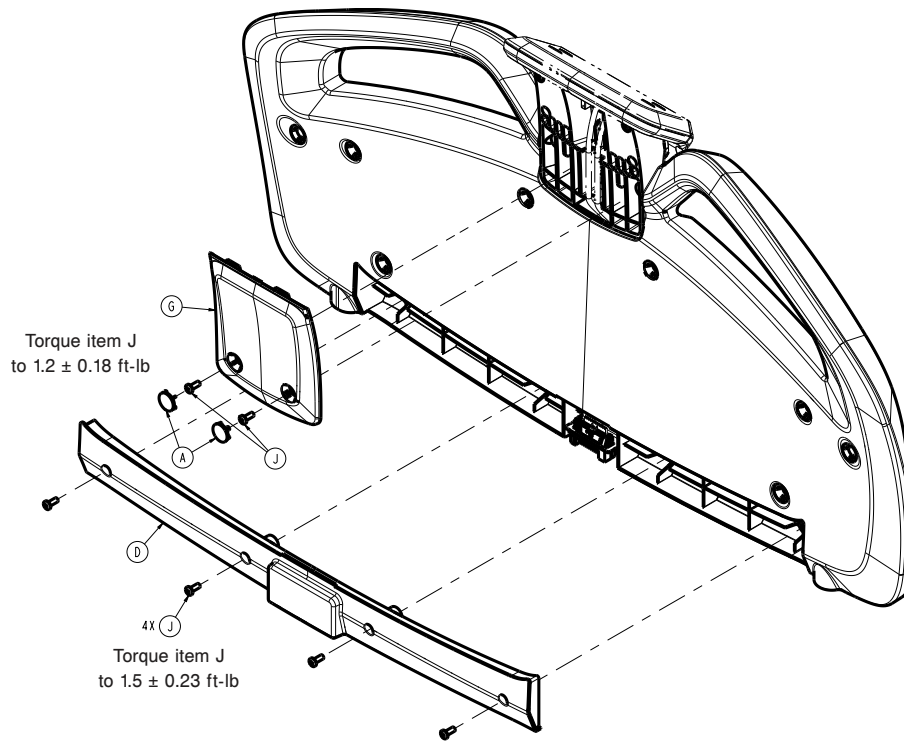

Figure 20 – Footboard housing
5. Using a pick, remove the two screw covers (A) from the back side of the footboard display housing (Figure 20). Discard the screw covers.
- Using a T25 Torx driver, remove the two screws (J) that secure the display housing cover (G) to the footboard (Figure 20). Remove the display housing cover.